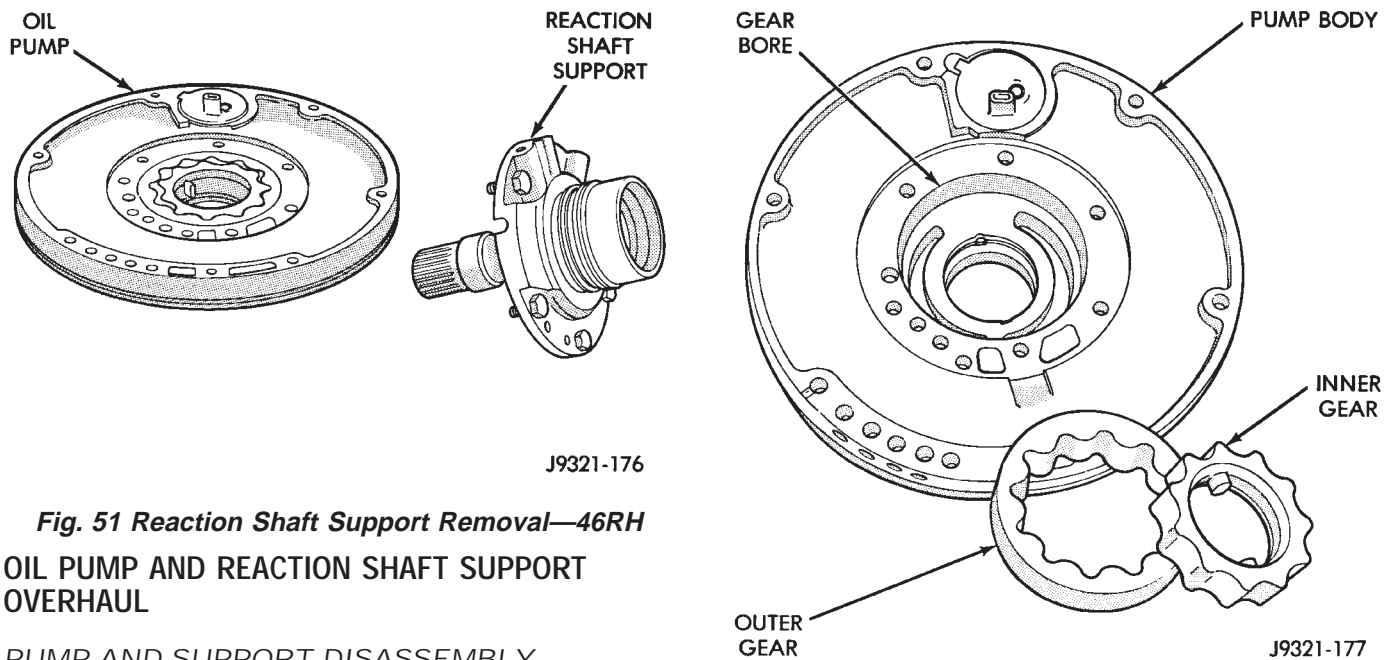

Fig. 51 Reaction Shaft Support Removal—46RH
- (1) Mark position of support in oil pump body for assembly alignment reference. Use scribe or paint to make alignment marks.
- (2) Place pump body on two wood blocks.
- (3) Remove reaction shaft support bolts and separate support from pump body (Fig. 51).